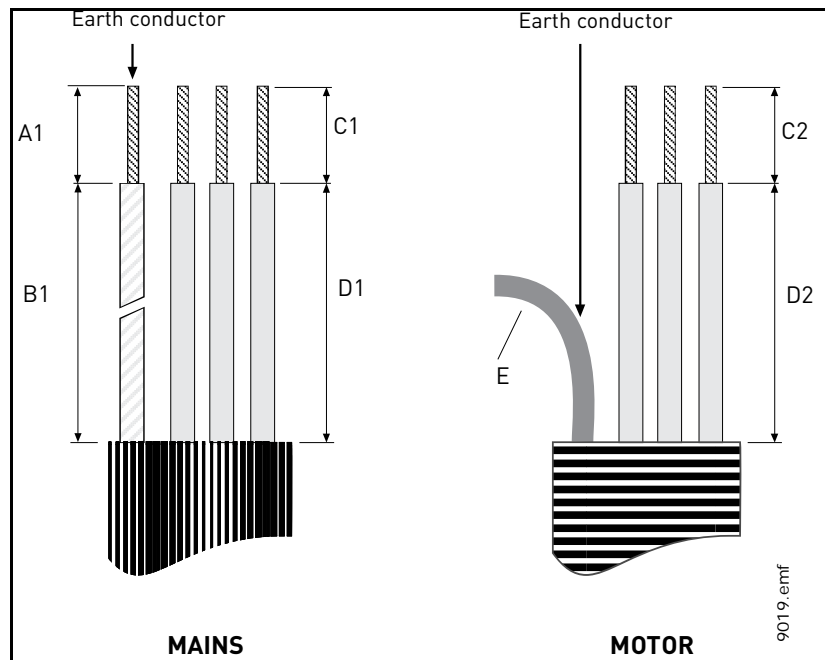
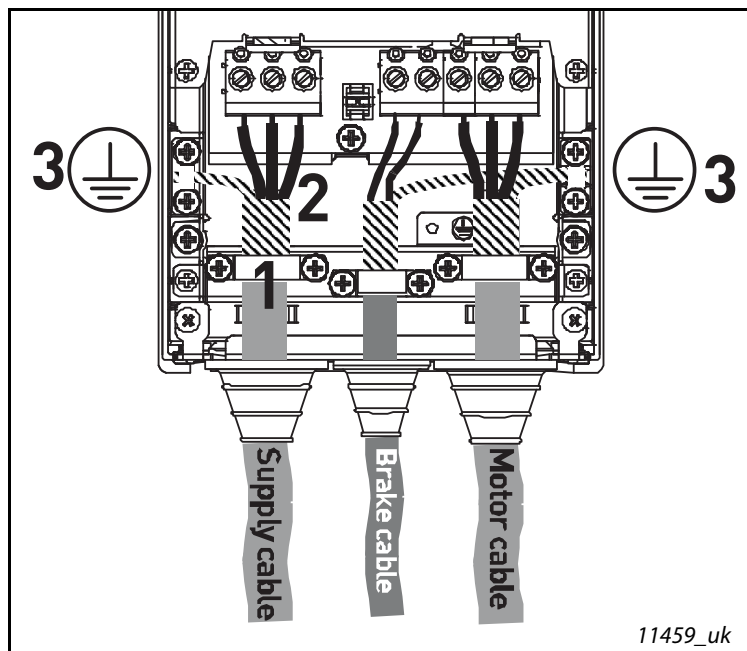

Figure 17. Stripping of cables
Figure 24.
| 7 | <p>Connect the stripped cables (see Figure 17 and Table 10) as shown in Figure 24.</p> <ul style="list-style-type: none"> <li>• Expose the shield of all three cables in order to make a 360-degree connection with the cable clamp (1).</li> <li>• Connect the (phase) conductors of the supply, brake and motor cables into their respective terminals (2).</li> <li>• Form the rest of the cable shield of all three cables into “pigtails” and make a grounding connection with a clamp as shown in Figure 24 (3). Make the pigtails just long enough to reach and be fixed to the terminal - not longer.</li> </ul> |